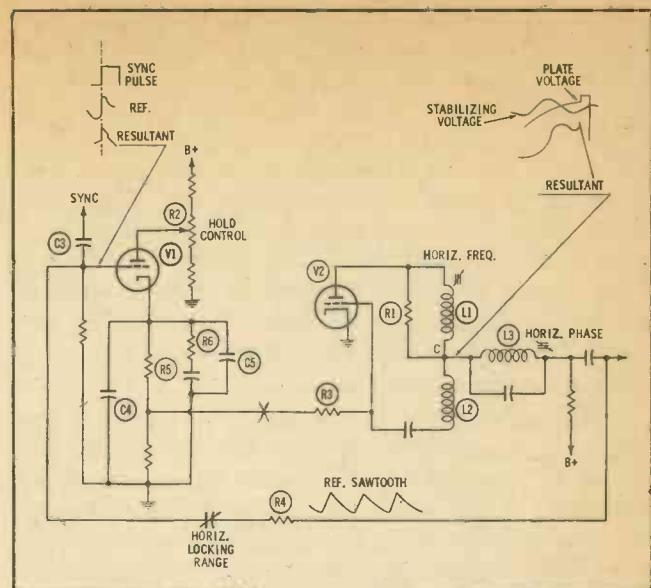
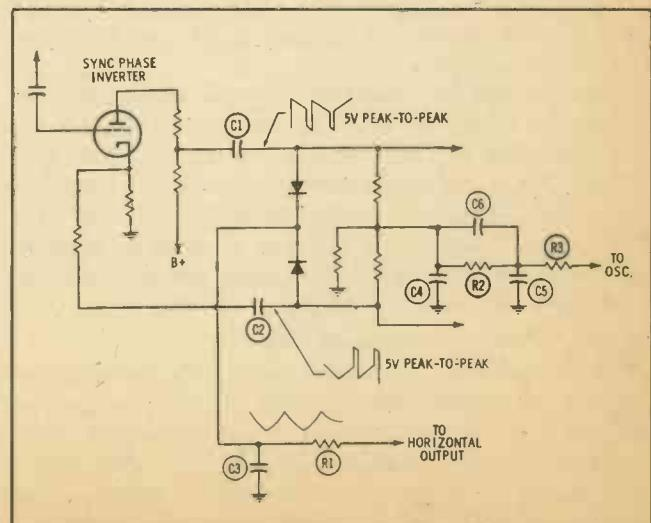

Fig. 4. Waveforms and controls in *Synchroguide* stage.
Fig. 5. An example of a dual-diode horizontal AFC circuit.
The AFC alignment of *Synchroguides* (Fig. 4) differs slightly from alignment of the cathode-coupled multivibrator and is performed as follows:
5. Adjust the lower slug in oscillator transformer L3 until the pattern shown in Fig. 4 can be seen on the scope. It may be necessary to readjust L1 at the same time if moving the slug in L3 throws the
Scope at AFC. Test Point 4 separates the AFC and the sync stages. In the diode type, a scope used on all the input waveforms to the AFC circuit will show if proper pulses are arriving at this circuit. The scope sweep should be set at 7875 cps to view two horizontal pulses. There may be two points at which sync pulses of opposite polarity are fed to the AFC. These pulses should be exactly the same in shape and in peak-to-peak voltage. If they are not the same, except for the reversal in polarity, coupling capacitors C1 and C2 from the AFC to the sync stages should be substituted (Fig. 5). It is also necessary to view the reference pulse from the oscillator or horizontal output, as the
In *Synchroguides*, Test Point 4 is at the grid of the control tube, and the waveform to be expected is shown in Fig. 4. It is difficult to recognize the parts of this waveform when viewing it under operating conditions, but any deviation from the ideal pattern will lead the technician to suspect R4, C3, or C6 of having failed.
If the waveforms at Test Point 4 are normal, there are still some parts in the control-voltage filter network which must be checked. These are C4, C5, C6, R2, and R3 in Fig. 5; and in the *Synchroguide* (Fig. 4), they are R5, R6, C4, and C5.
If the condition is intermittent and occurs after the receiver has been operating for a few hours, it is nearly always due to trouble in the horizontal oscillator tube. When replacement of this tube does not completely correct the symptom, alignment of the AFC will restore stability to the receiver. Often stability in *Synchroguides* can be restored by turning the tuning slug on phasing coil 3 one-fourth to one-half turn counterclockwise (Fig. 4).